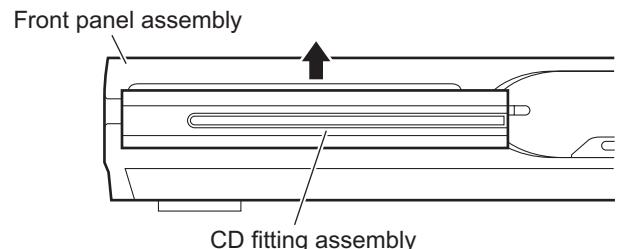

Fig.6
- (2) From the front side of the main body, remove the CD fitting assembly from the tray assembly in the direction of the arrow and push in the tray assembly as before. (See Fig.6.)
- (2) From the front side of the main body, remove the CD fitting from the tray assembly in the direction of the arrow and push in the tray assembly as before. (See Fig.6.)